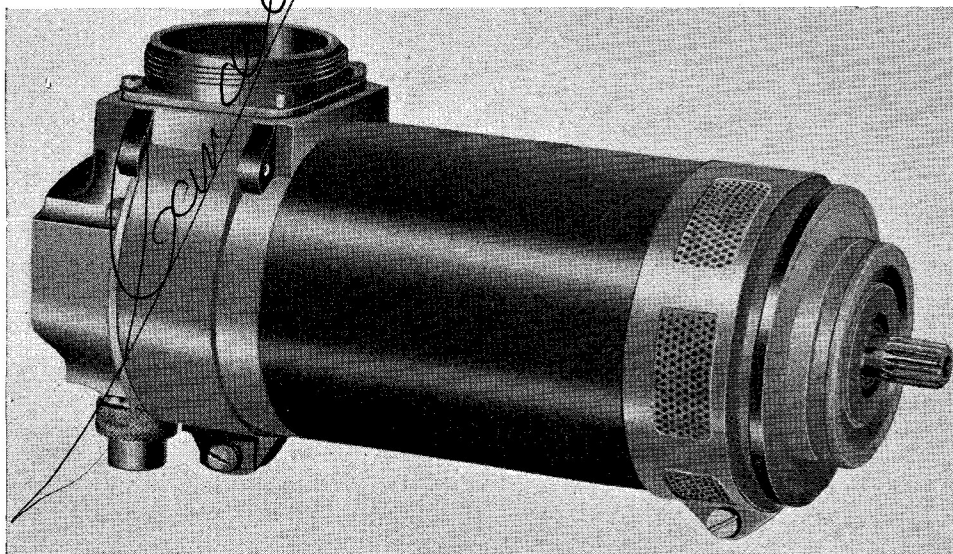
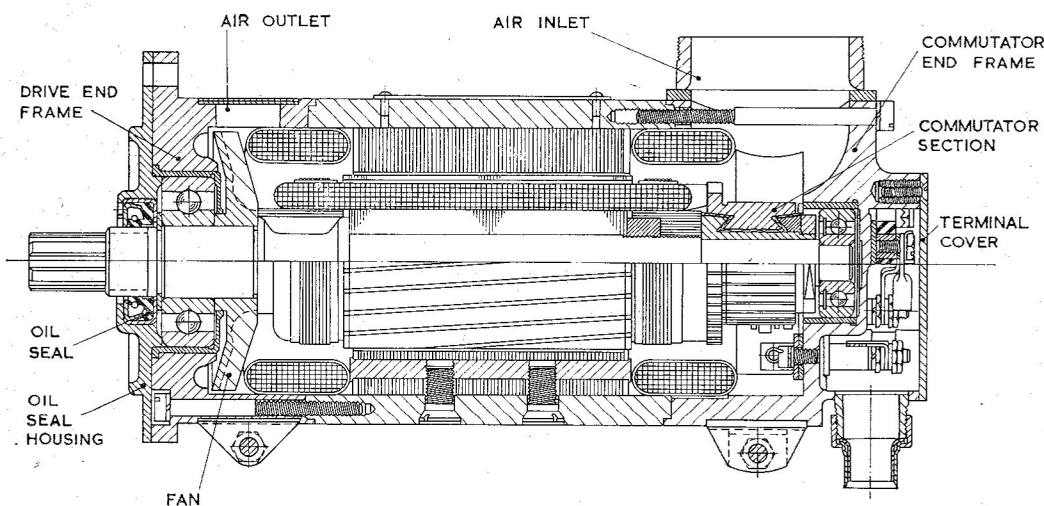

Fig. 1. Typical B1800 series generator (manacle-ring mounted)
Fig. 2. Sectional view of generator with oil seal (flange mounted)
2. A typical manacle-ring mounted generator is illustrated in fig. 1, and a sectional view of a flange-mounted generator with oil seal in fig. 2. They are 2-pole, shunt wound machines of conventional design, screened to prevent radio interference.